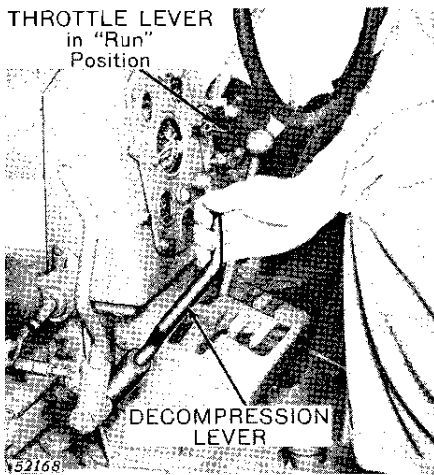

Figure 10-10-3—Operating Decompression Lever
- (1) Allow cranking engine to run a short while before engaging it with the Diesel engine. The length of time will vary, with temperature conditions, being normally from 1 to 3 minutes.
- (2) Place cranking engine throttle lever in "run" position (to the left).
- (3) Pull the decompression lever all the way to the rear (Figure 10-10-3).